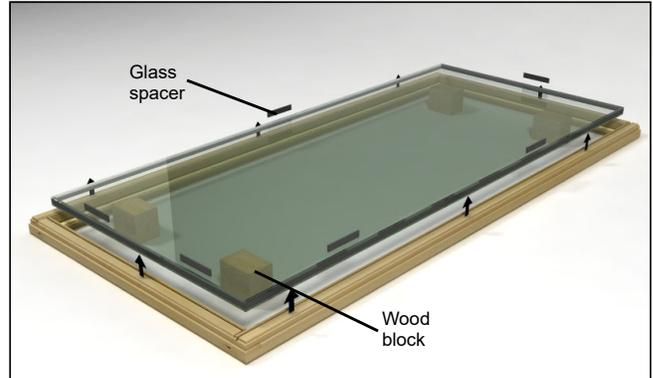

Figure 2
3. Place wood blocks 1" (25) thicker than the sash at quarter points within the sash opening. Large size sash place additional blocks in the center as well. See figure 2.
4. Place the glass on top of the blocks and lift the sash up evenly against the glass. Place sash on a clean flat surface and install glazing blocks at quarter points of the bottom and right side of the sash. Place a glazing block at the center top and center left side. See figure 2.